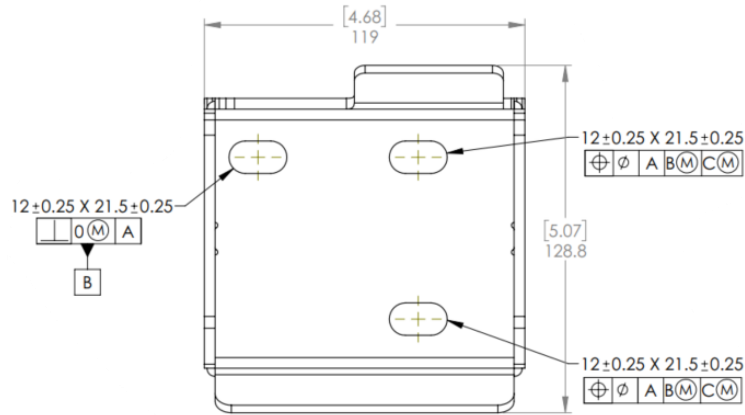

Figure 7 – RH AEV Frame Bracket
- c. Offset frame brackets to furthest edge of hole towards bias side. AEV frame brackets should have ~ 6.75mm movement from center – Fig. 7